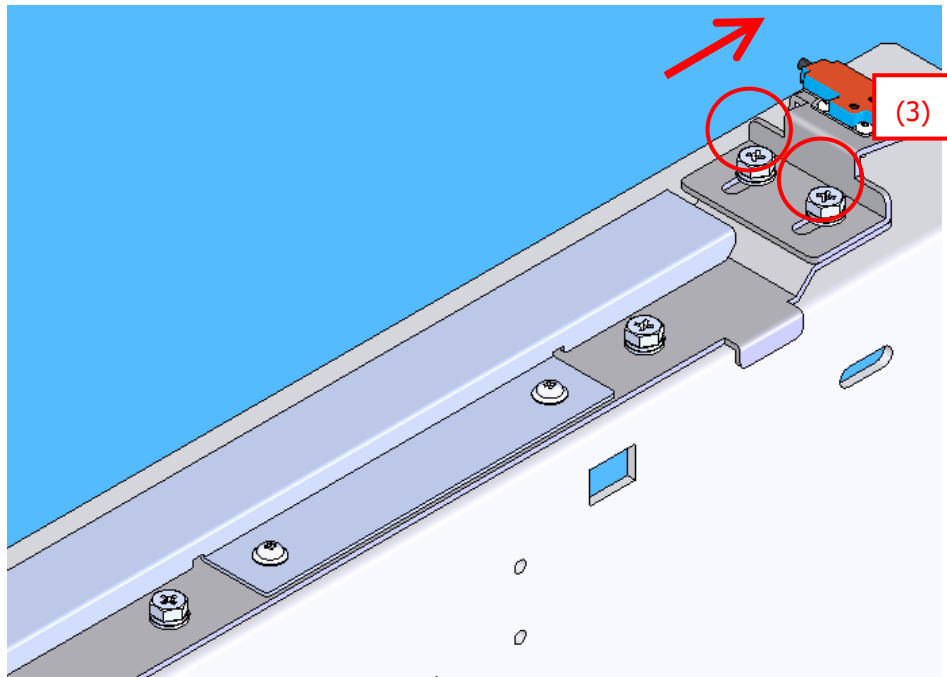

Fig. 6 Positioning of (3)
7. Move (3) toward the red arrow while the right/left wrapping plates are on the original position to search the position where the rear sensor is being blocked. Move (3) more toward the arrow until the sensor is NOT being blocked. Fix it after additionally moving 0.5 - 1.0mm (Fig. 6).